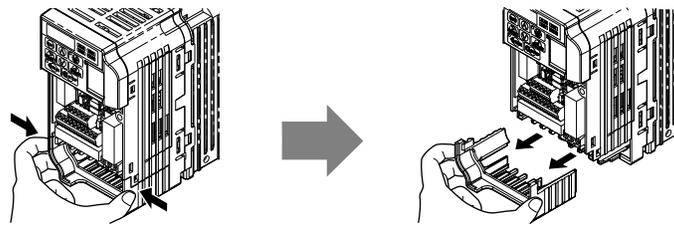

Figure 5 Remove the Bottom Cover on an IP20/Open-Chassis Drive (Models BA0001B to BA0003B and 2A0001B to 2A0006B)
3. For IP20/Open-Chassis models CIMR-V□□A□□□□B, remove the bottom cover of the drive by applying pressure to the tabs on each side of the bottom cover. Pull the bottom cover away from the drive while pushing in on the tabs to release the cover from the drive. Refer to Figure 5 for details.